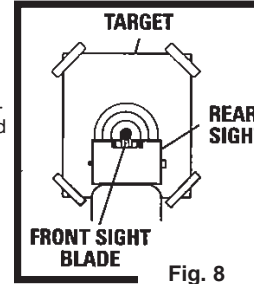

Fig. 8
- The airgun is correctly aimed when the front sight blade is positioned exactly in the notch of the rear sight. The top of the front sight blade should be even with the top of the notch in the rear sight. The bullseye should appear to rest on the top of the front sight. (Fig. 8)